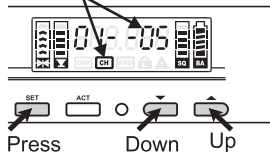

Fig. 12
- (1) Press the 'SET' ④ button until both GRP ②① cursor and a group number start blinking to denote it is ready to accept parameter change.
- (2) During blinking, press ▼ ⑦ or ▲ ⑧ button to select one of the factory preset groups.
## (B) CH: CHANNEL Setting. Fig. 12